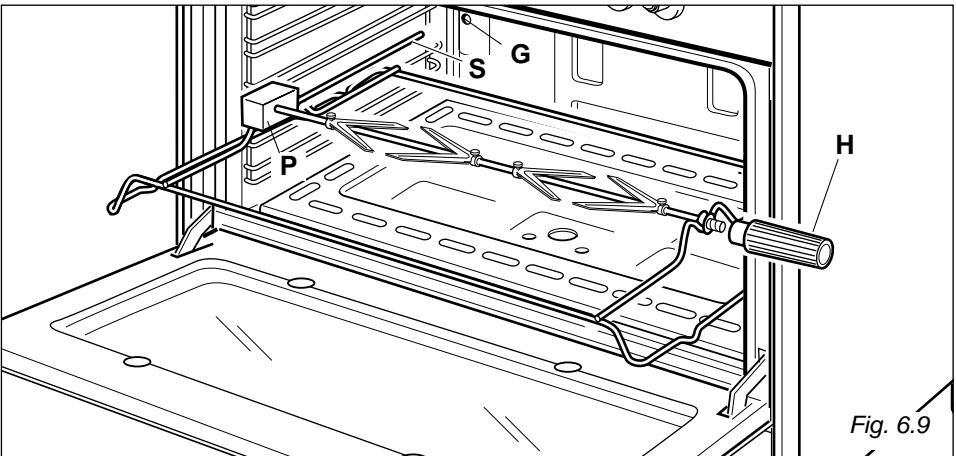

Fig. 6.9
- Insert the rod into the side gear opening "P" (fig. 6.9)